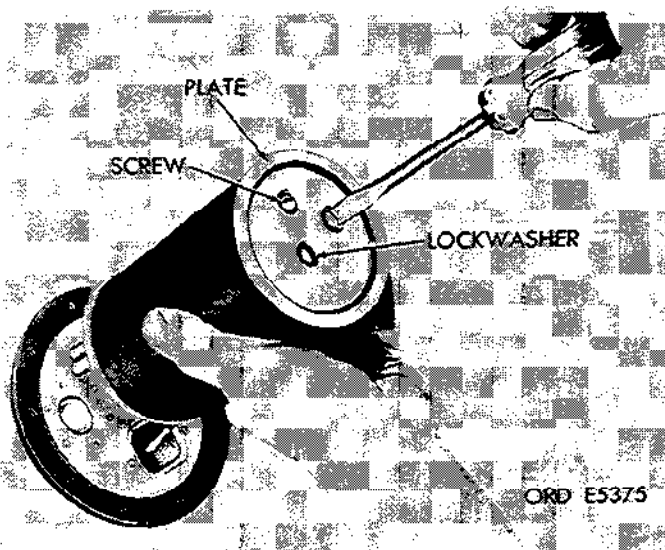

Figure 2-112. Remove filter retaining plate.
(1) Remove fuel pump from gas tank (para. 2-49).
(2) Remove three screw and lockwasher assemblies securing filter retaining plate to underside of pump (fig. 2-112).
(7) Make the necessary connections and check the flared nut and compression nut for leaks while pumping fluid. If leakage exists, tighten nuts further. If leakage still exists, pump assembly cannot be used.
(8) Assemble in their proper order, the spring washer, spacer ring, upper filter gasket, filter element, lower filter gasket, filter retaining plate, and three screw and lockwasher assemblies (fig. 2-112 and 2-113).
(9) Install fuel pump in gas tank (para 2-49).